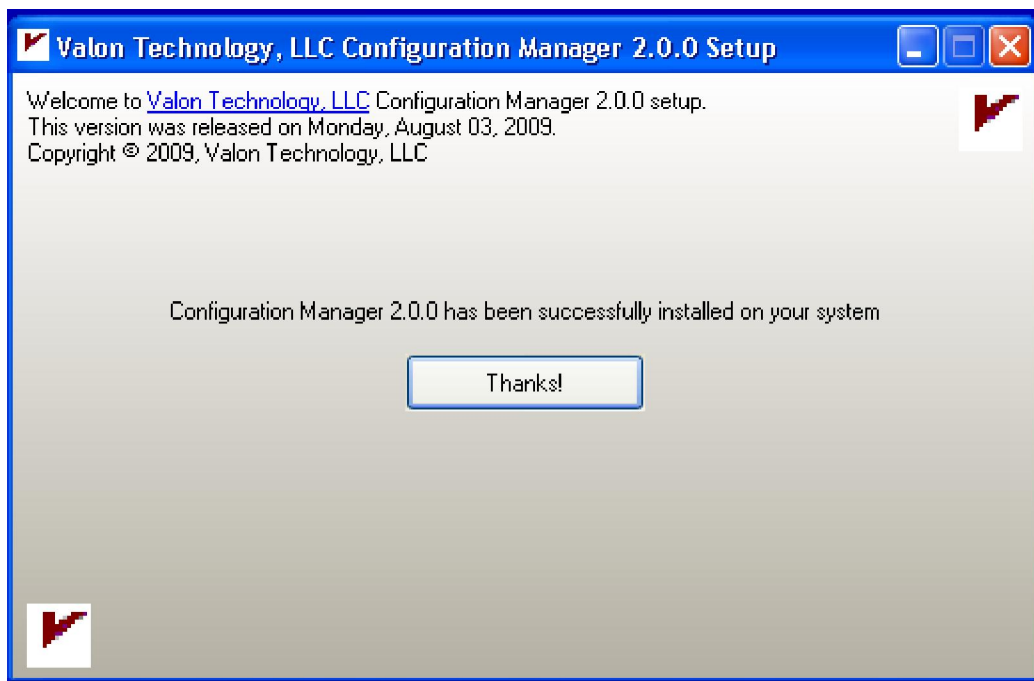

Figure 2-4 Installation Completed Window
- i. The Configuration Manager Program will be installed on your system and the **Installation Completed Window**, as shown in Figure 2-4 on the following page, will be displayed.